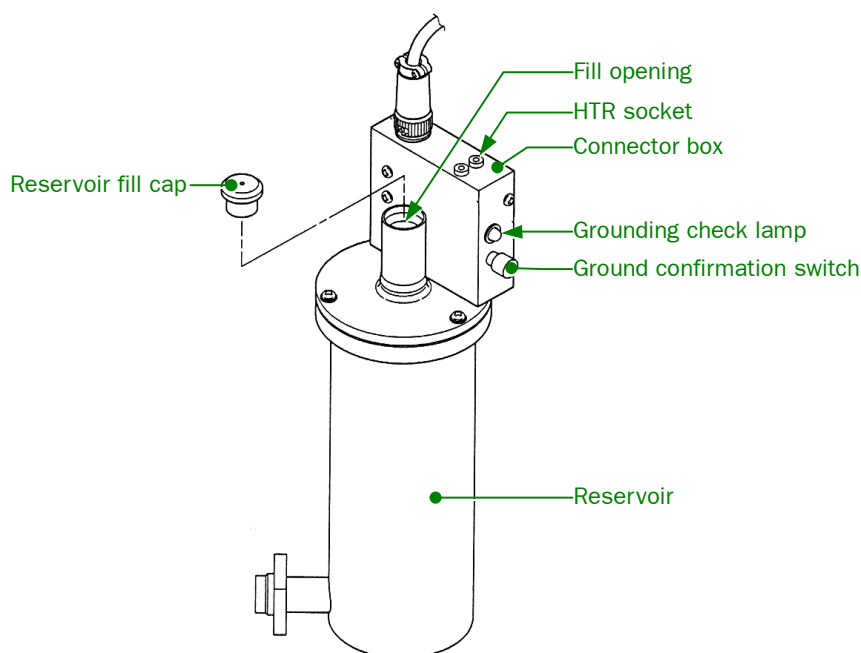

Fig. 5.40 Anti-contamination device reservoir assembly
1. Make sure that the column pressure is below 0.1 Pa (10^{-3} Torr) and the ground indication lamp does not light when its switch is pressed (☞ Fig.5.40).